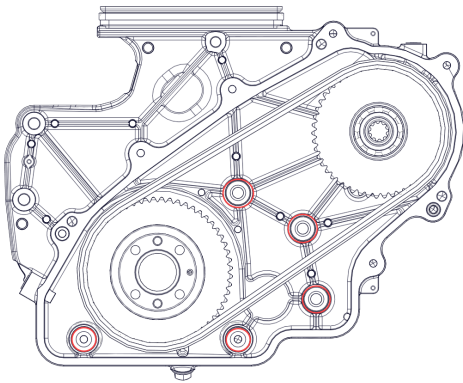

Figure 2.
2. Using motor oil, lubricate the 5 O-rings (Figure 2).